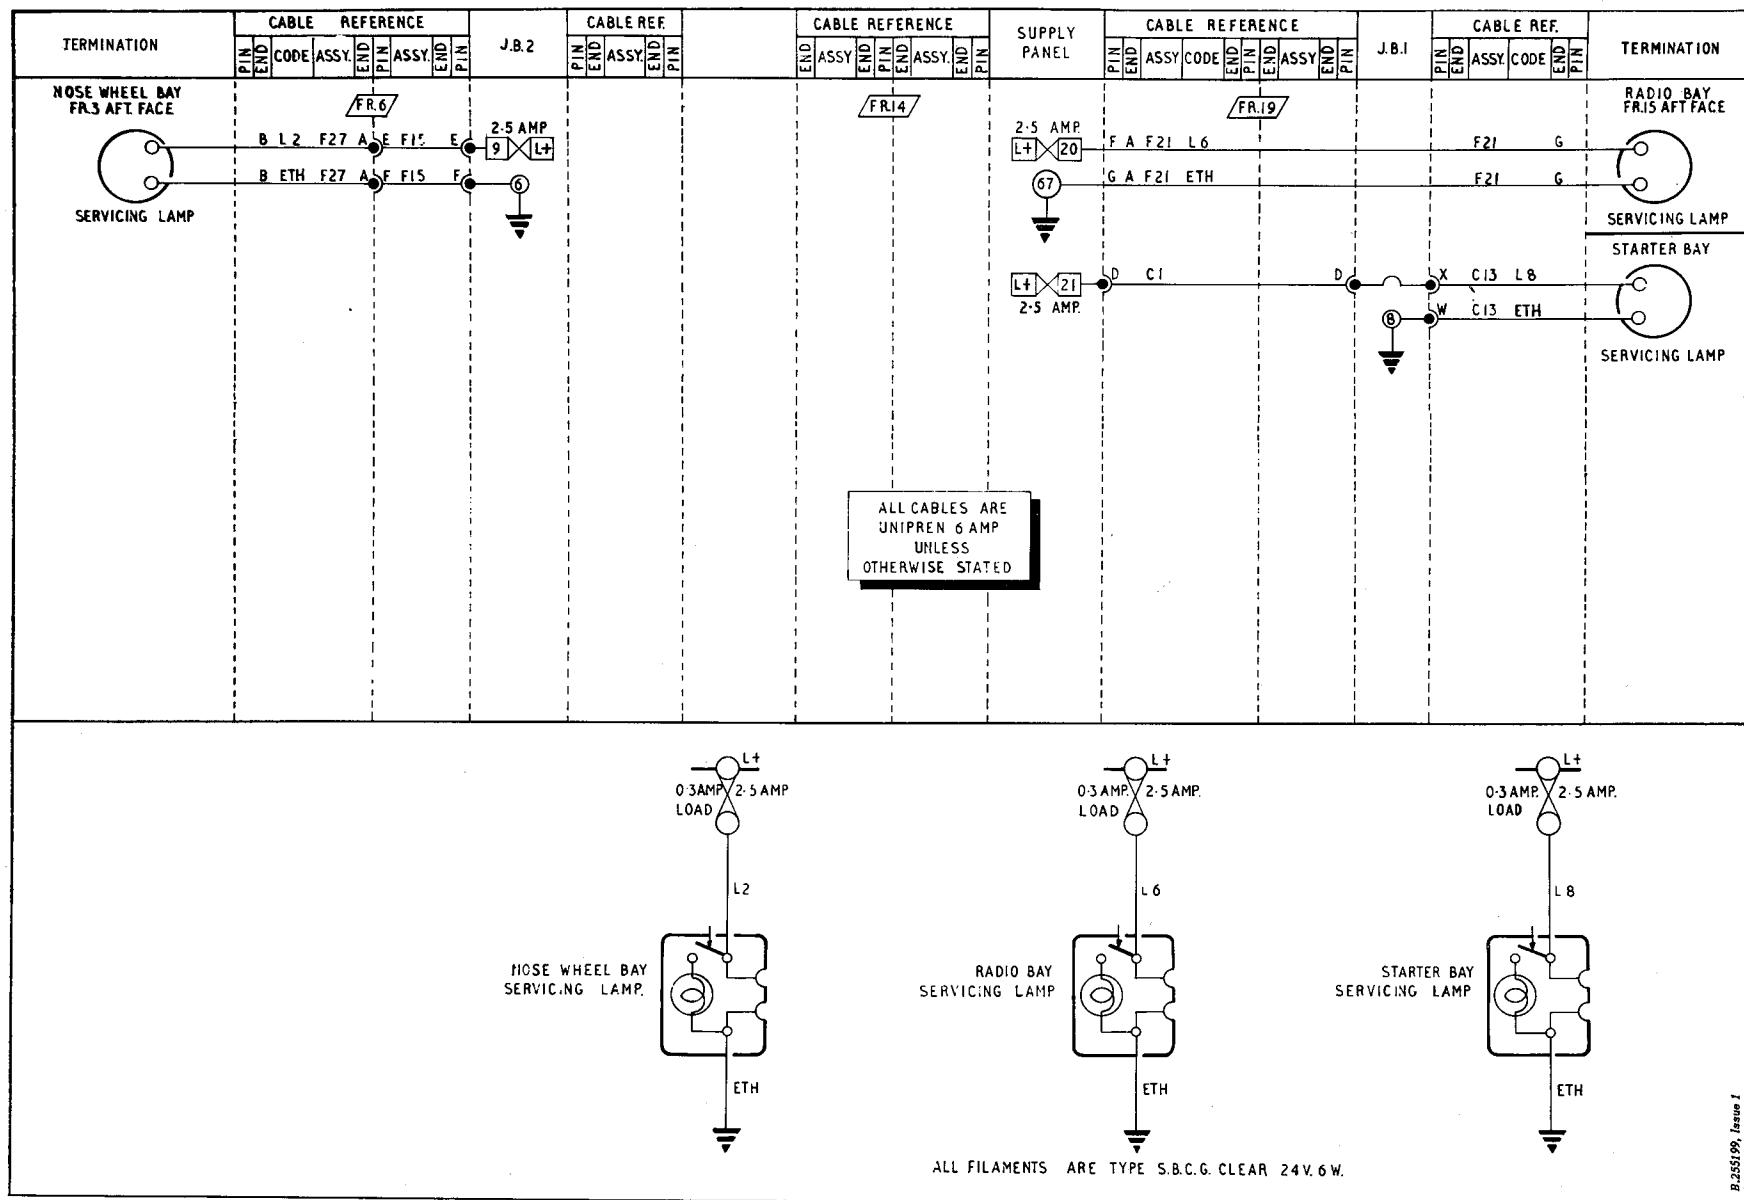

Fig. 1. Servicing lamps (routeing and theoretical)
T. P. (E) 11312
3. The operation of the circuit will be obvious when reference is made to the wiring diagram given in fig.1.